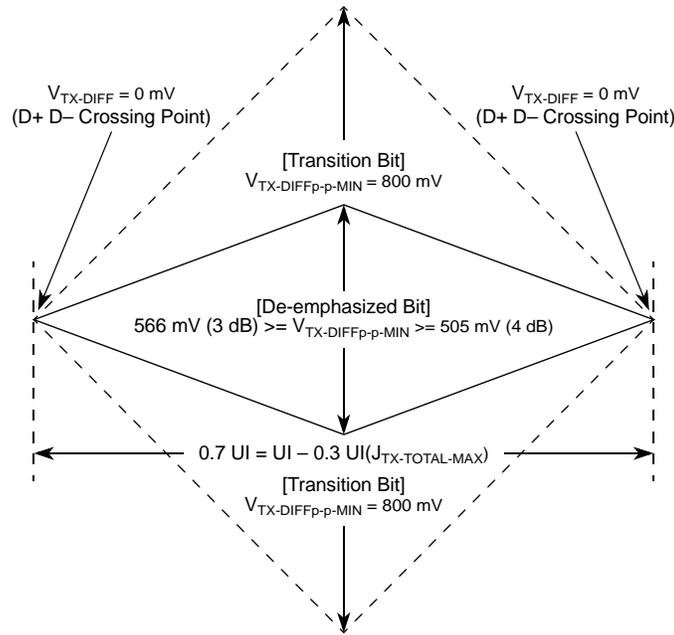
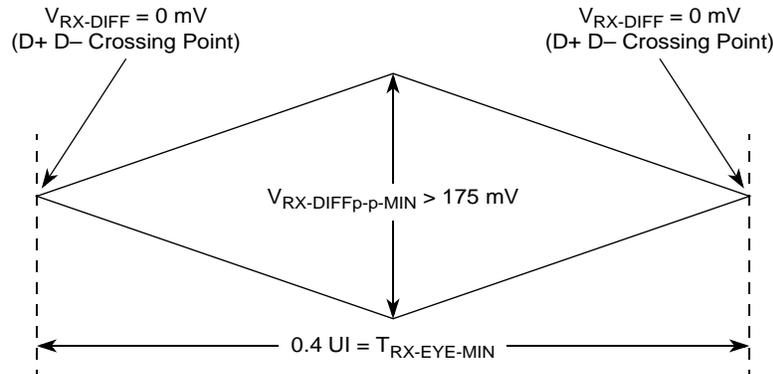
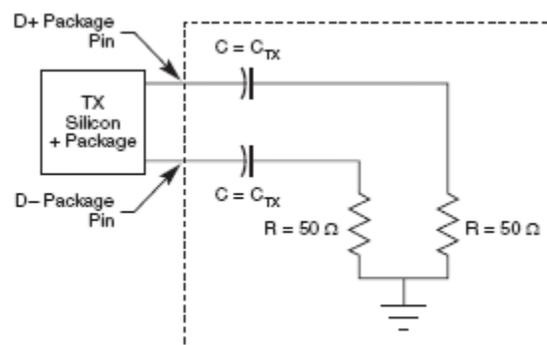

Figure 27. Minimum Transmitter Timing and Voltage Output Compliance Specifications
Figure 28. Minimum Receiver Eye Timing and Voltage Compliance Specification
Figure 29. Compliance Test/Measurement Load
2. Specified at the measurement point into a timing and voltage compliance test load as shown in Figure 29 and measured over any 250 consecutive TX UIs. (Also refer to the transmitter compliance eye diagram shown in Figure 27.)
4. The transmitter input impedance shall result in a differential return loss greater than or equal to 12 dB and a common mode return loss greater than or equal to 6 dB over a frequency range of 50 MHz to 1.25 GHz. This input impedance requirement applies to all valid input levels. The reference impedance for return loss measurements is 50  $\Omega$  to ground for both the D+ and D– line (that is, as measured by a vector network analyzer with 50- $\Omega$  probes, see Figure 29). Note that the series capacitors,  $C_{TX}$ , is optional for the return loss measurement.
5. Measured between 20%–80% at transmitter package pins into a test load as shown in Figure 29 for both  $V_{TX-D+}$  and  $V_{TX-D-}$ .
The TX eye diagram in Figure 27 is specified using the passive compliance/test measurement load (Figure 29) in place of any real PCI Express interconnect + RX component. There are two eye diagrams that must be met for the transmitter. Both diagrams must be aligned in time using the jitter median to locate the center of the eye diagram. The different eye diagrams differ in voltage depending on whether it is a transition bit or a de-emphasized bit. The exact reduced voltage level of the de-emphasized bit is always relative to the transition bit.
2. Specified at the measurement point and measured over any 250 consecutive UIs. The test load in Figure 29 should be used as the RX device when taking measurements (also refer to the receiver compliance eye diagram shown in Figure 28). If the clocks to the RX and TX are not derived from the same reference clock, the TX UI recovered from 3500 consecutive UI must be used as a reference for the eye diagram.
4. The receiver input impedance shall result in a differential return loss greater than or equal to 15 dB with the D+ line biased to 300 mV and the D- line biased to -300 mV and a common mode return loss greater than or equal to 6 dB (no bias required) over a frequency range of 50 MHz to 1.25 GHz. This input impedance requirement applies to all valid input levels. The reference impedance for return loss measurements for is 50  $\Omega$  to ground for both the D+ and D- line (that is, as measured by a vector network analyzer with 50- $\Omega$  probes, see Figure 29). Note that the series capacitors,  $C_{TX}$ , is optional for the return loss measurement.
The RX eye diagram in Figure 28 is specified using the passive compliance/test measurement load (Figure 29) in place of any real PCI Express RX component. In general, the minimum receiver eye diagram measured with the compliance/test measurement load (Figure 29) is larger than the minimum receiver eye diagram measured over a range of systems at the input receiver of any real PCI Express component. The degraded eye diagram at the input Receiver is due to traces internal to the package as well as silicon parasitic characteristics which cause the real PCI Express component to vary in impedance from the compliance/test measurement load. The input receiver eye diagram is implementation specific and is not specified. RX component designer should provide additional margin to adequately compensate for the degraded minimum Receiver eye diagram (shown in Figure 28) expected at the input receiver based on an adequate combination of system simulations and the return loss measured looking into the RX package and silicon. The RX eye diagram must be aligned in time using the jitter median to locate the center of the eye diagram.
The reference impedance for return loss measurements is  $50\ \Omega$  to ground for both the D+ and D- line (that is, as measured by a Vector Network Analyzer with  $50\ \Omega$  probes—see Figure 29). Note that the series capacitors,  $C_{PEACCTX}$ , are optional for the return loss measurement.
The AC timing and voltage parameters must be verified at the measurement point, as specified within 0.2 inches of the package pins, into a test/measurement load shown in Figure 29.